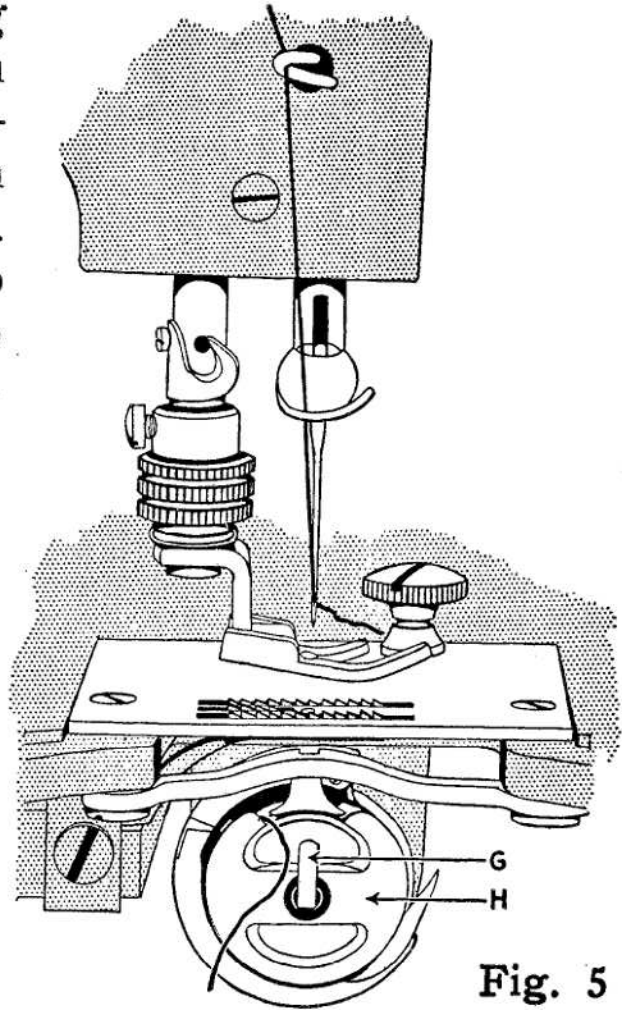

Fig. 5
with the thread laying over the hand and with the needle hole (L) directly at the top. Turn the little catch "G" (Fig. 5) out straight and slip the case over it and on to the shaft in the hook as far as it will go and then
turn the little catch "G" up to hold the case in as shown in Fig. 5: Be careful not to get the thread caught between the case and the hook.